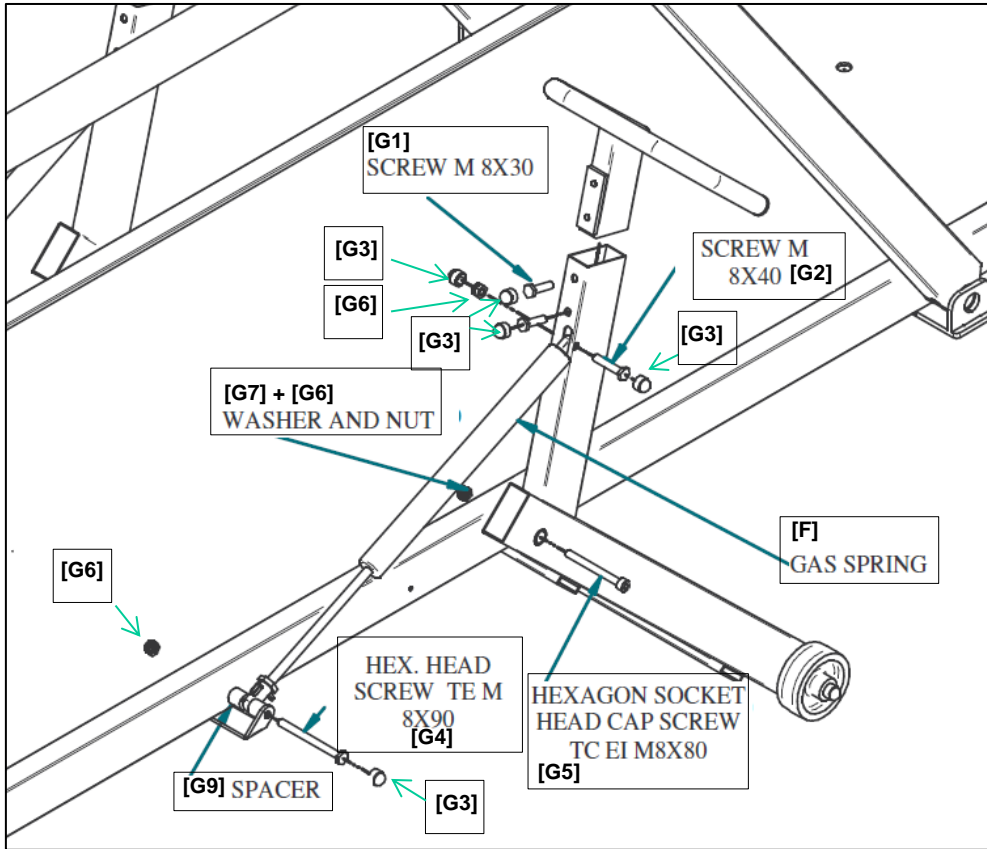

Fig.4
- a. Install the gas springs and the tilting kit as shown in fig.4. Note that the screws must be free to rotate